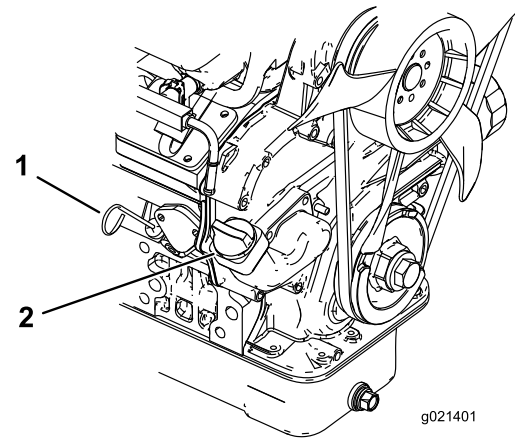

Figure 25
2. Remove the dipstick (Figure 25) and wipe it with a clean rag. Insert the dipstick into the tube and make sure it is seated fully. Remove dipstick and check the level of the oil.
3. If the oil level is low, remove the filler cap (Figure 25) and add enough oil to raise the level to the Full mark on the dipstick.